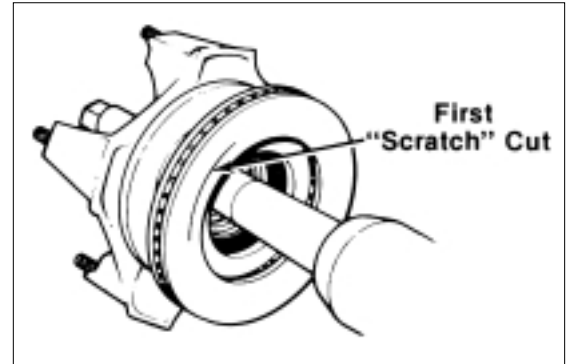

Figure 7 - Rotor Mounting, First "Scratch" Cut
9. Advance the tool bits to the approximate center of the rotor faces. Turn the red and blue depth-of-cut knobs clockwise, one at a time, until their respective tool bits make light contact with the rotor face, making a "scratch" cut, Fig. 7.